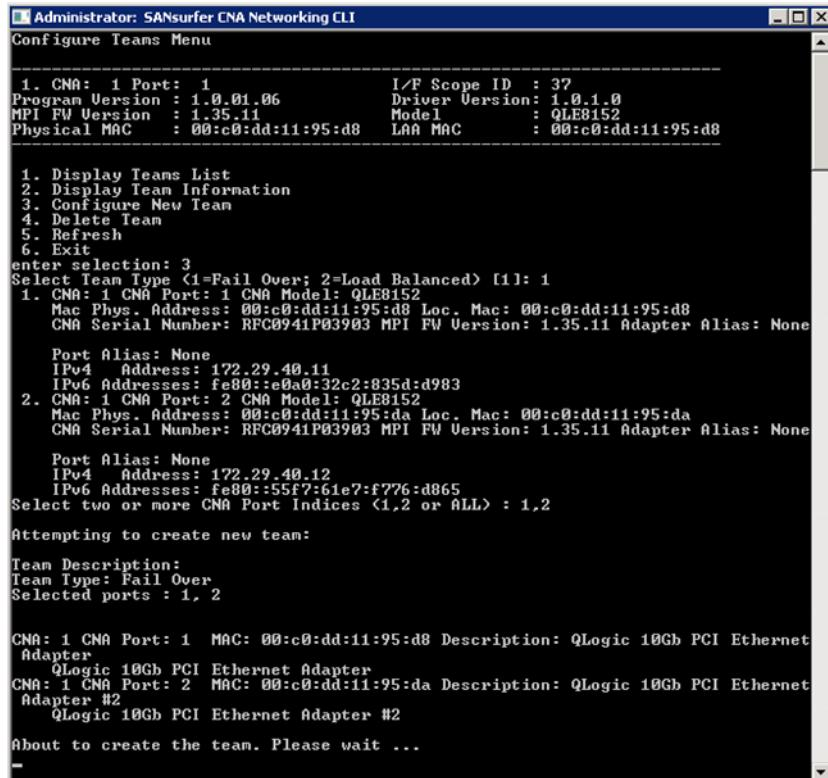

Figure 6-13. Creating a Team
9. In the Configure Teams menu, type **3**, and then press ENTER to select **Configure New Team** (Figure 6-13).